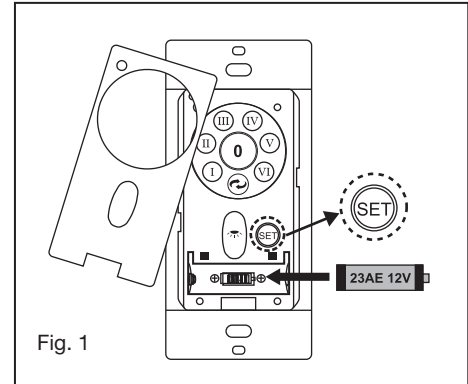

Fig. 1
1. Insert the receiver into the ceiling mounting bracket with the flat side of the receiver facing the ceiling. (Fig. 1) For best performance, make sure the Black Antenna, on the end of the receiver, remains extended and not tangled with any of the electrical wires.
- 1 Remove one of the three screws on the mounting hub located on the fan motor. (Fig. 1)
- 2 While holding the LED assembly under your fan, make the polarized plug connections: (Fig. 1)
- 3 Tuck connections neatly into LED assembly, place the LED assembly to the mounting hub with 3 screws provided. (Fig. 1)
- 4 Raise the light cover against the LED assembly and turn clockwise until snug, DO NOT OVERTIGHTEN. (Fig. 1)
- 1 Remove the existing wall plate and the old switch from the wall outlet box. (Fig. 1)
Follow the below steps to use the set button. (Fig. 1)